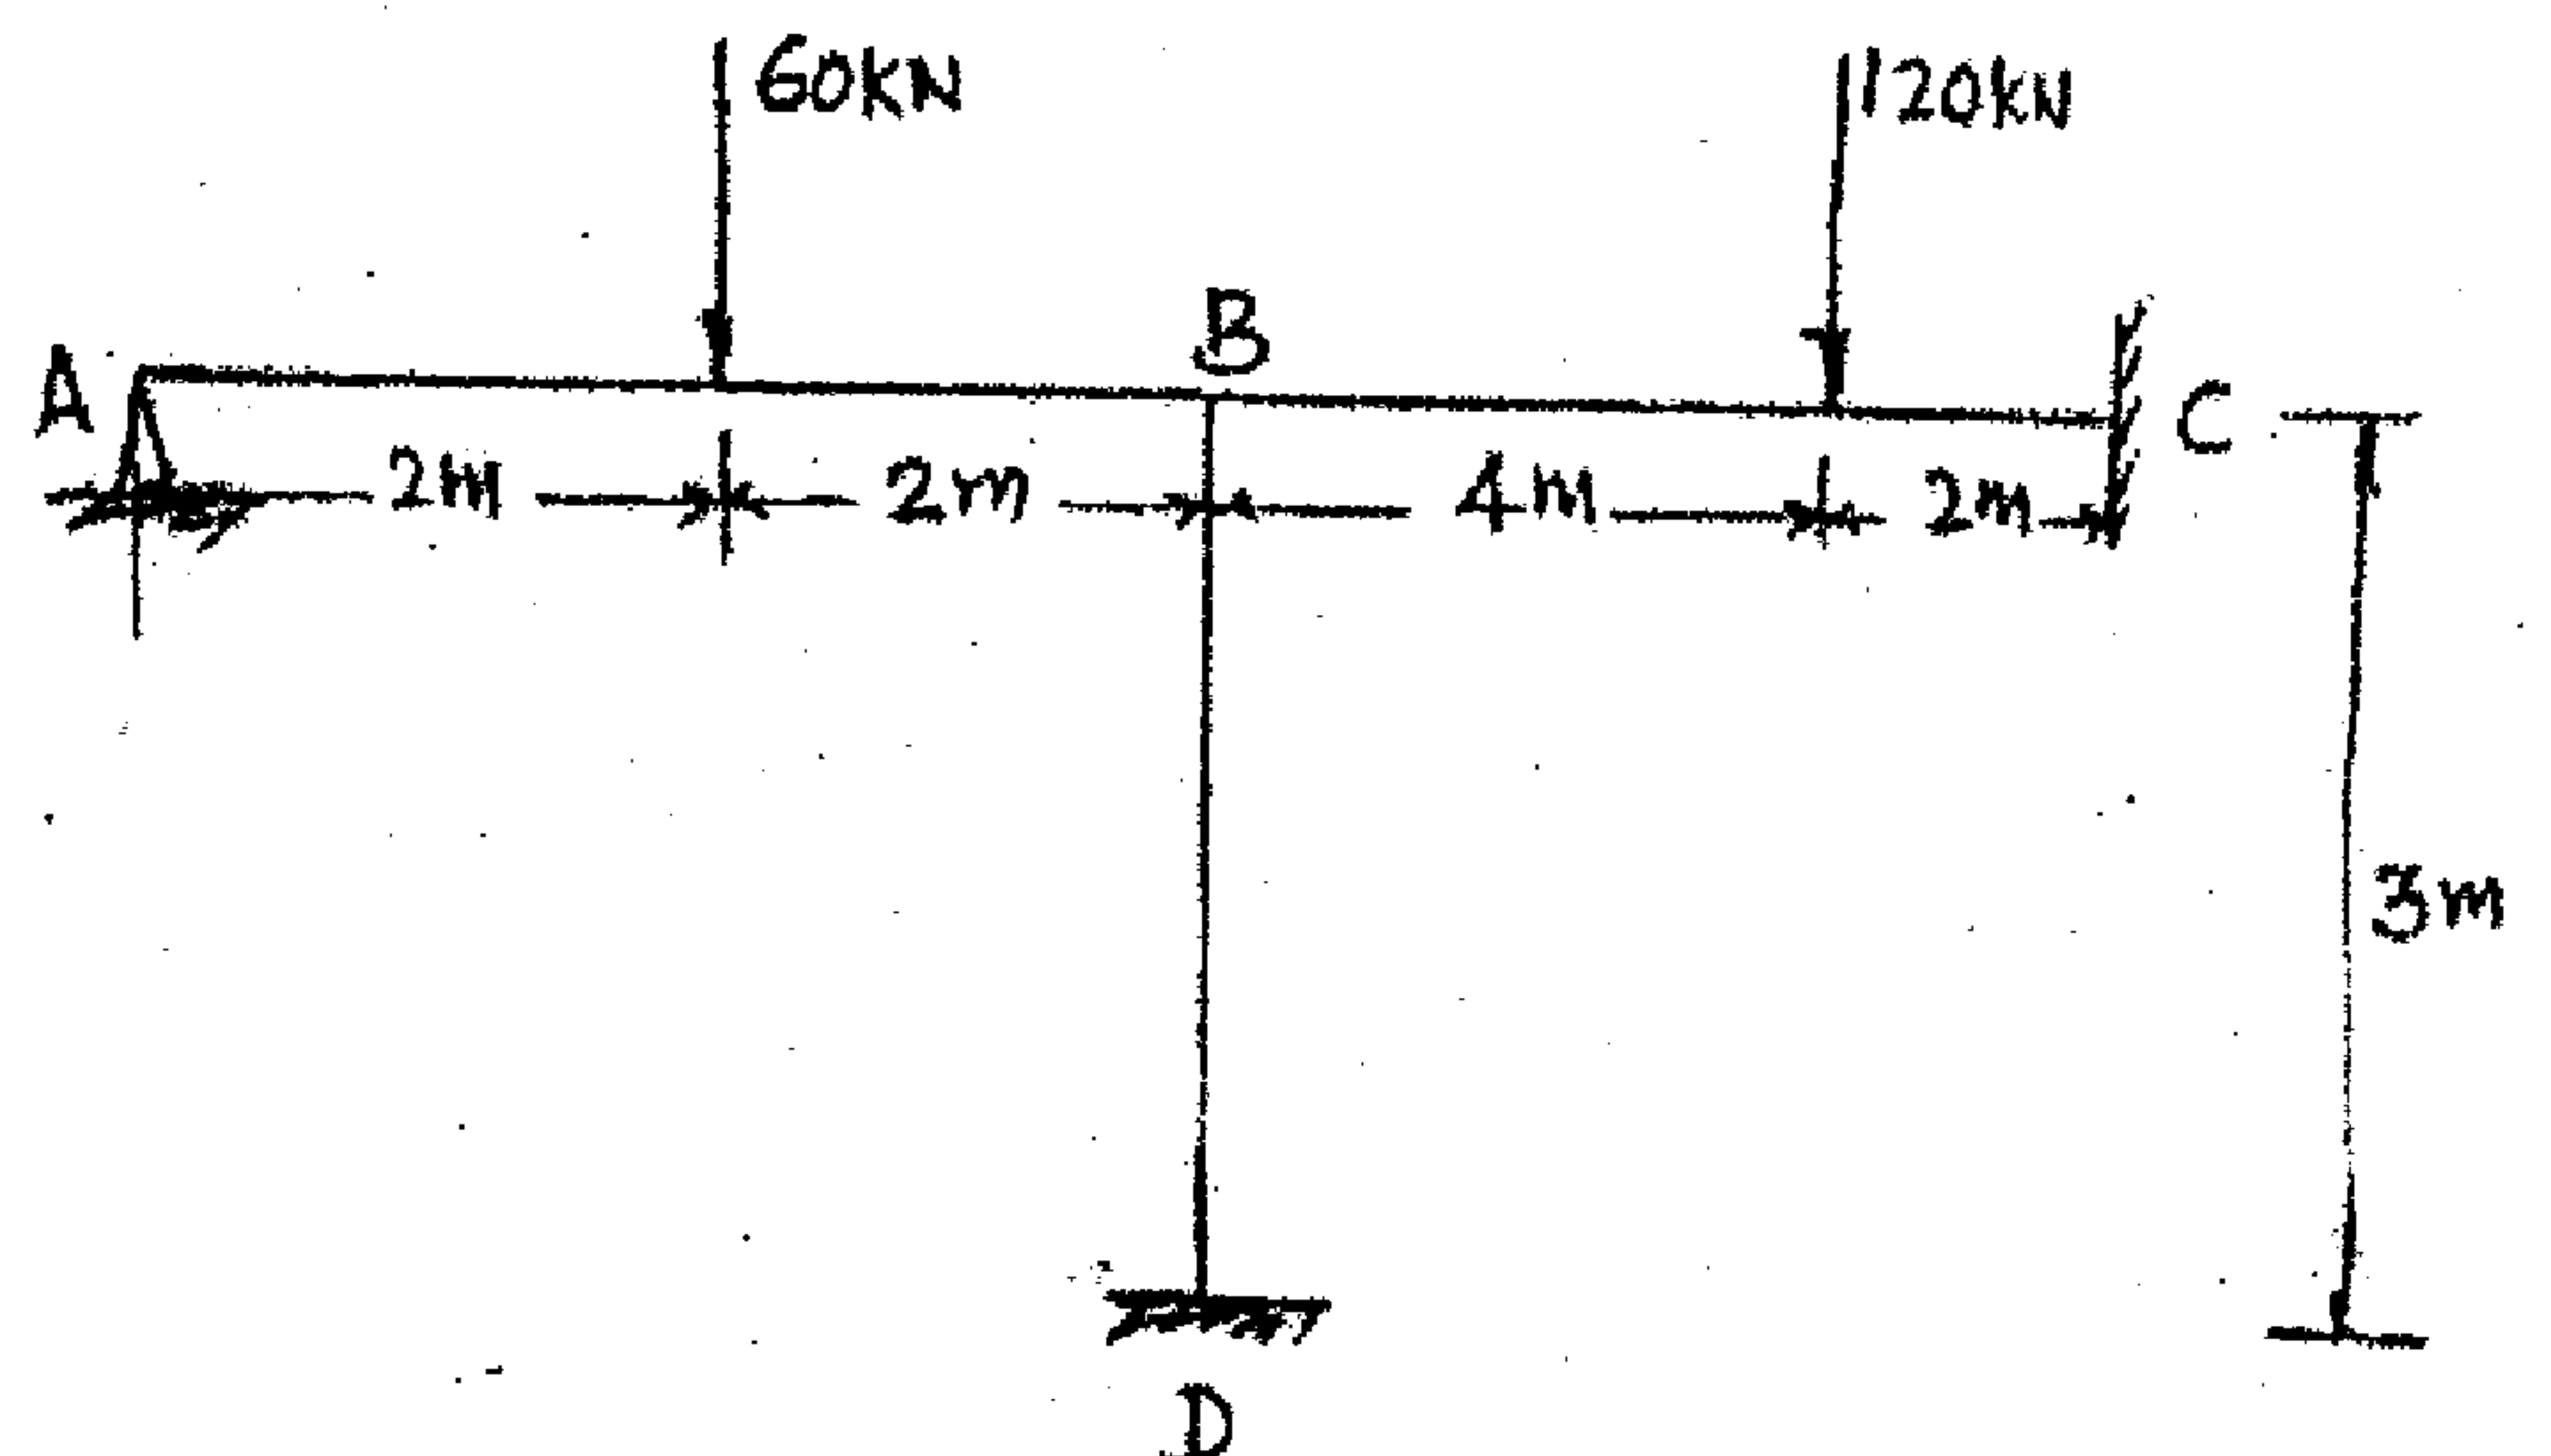

Fig. Q7
- 7 Analyse the frame shown in figure Q7 by the matrix stiffness method. (20 Marks)